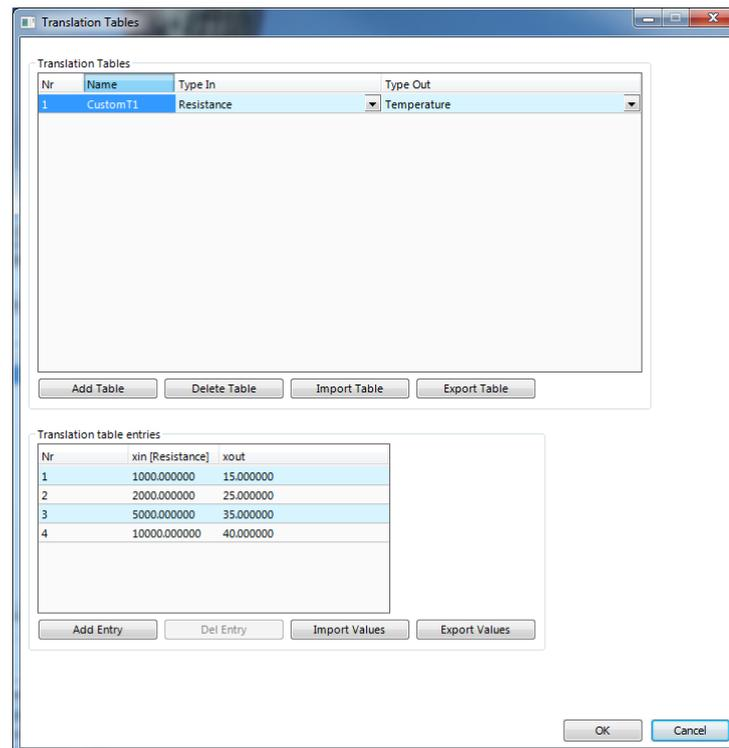

Figure 72: L-IOB Translation Tables
- To setup translation tables for certain I/O interpretation modes, click the **Edit translation tables** button  in the **L-IOB Device** tab, see Figure 72 as well as the end of Section 11.2.3.